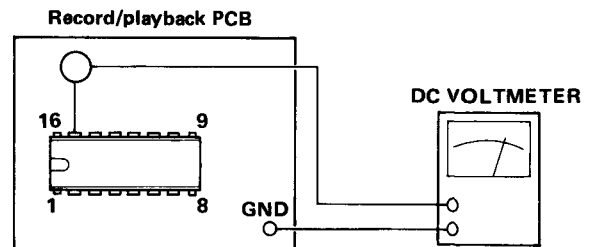

Fig. 3-1
2. The DC voltage should be +12 V. (See Fig. 3-1)